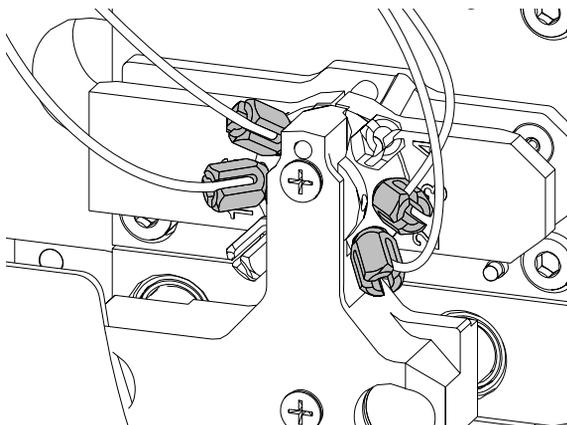

Figure 39
- 5 Loosen the slotted PEEK fitting using the Cube wrench and pull the capillary out. See Figure 39.